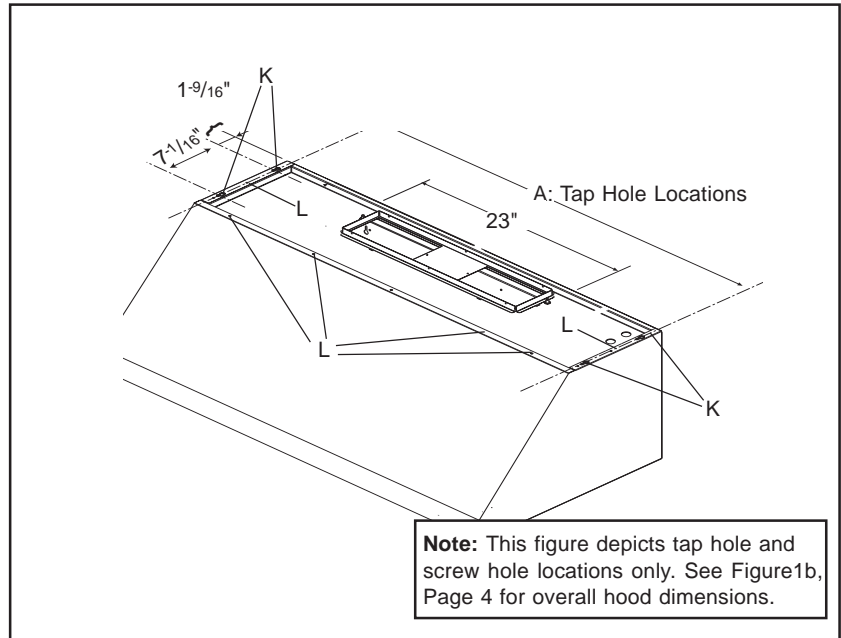

Figure 10: Tap Hole and Screw Hole Locations
Figure 10 shows the four (4) screw holes (K) used for mounting the hood to the bottom of the cabinet.
1. In the base of the cabinet drill 1/8" tap holes (See Dimension A in Figure 10 and in Table). Screw in four #10 x 1" screws (provided with hood) leaving 1/4" exposed).
5. From inside of hood, insert screws supplied. Drill through holes (use #8 x 5/8" screws supplied), one (1) on each side and four along the front, into bottom of the cabinet. See screw holes labeled "L" in Figure 10.
## Centerline Hole Dimensions for Figures 10 and 11